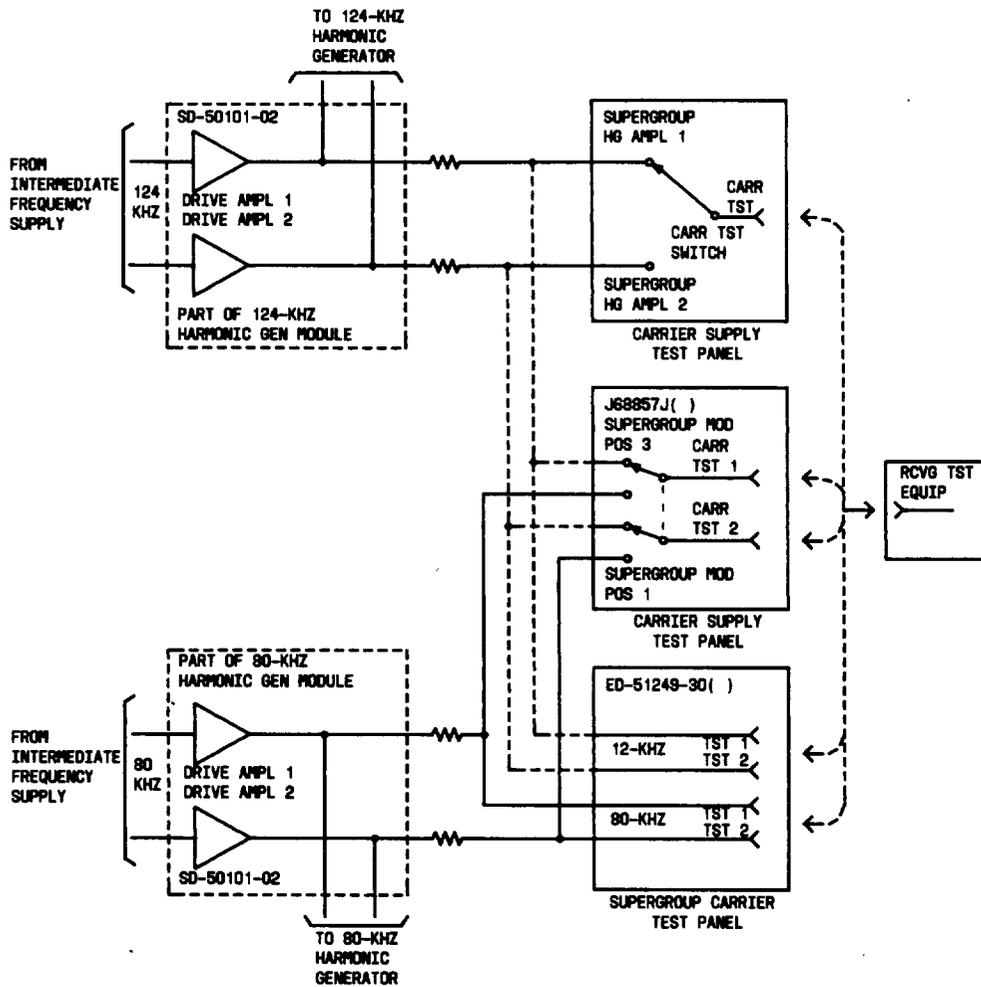

Fig. 5—Supergroup Carrier Driver Amplifier Output Power Test
| 7 | Connect the RTE to the appropriate carrier test panel in accordance with Fig. 5. |
| 15 | Remove patch (1), Fig. 5. |